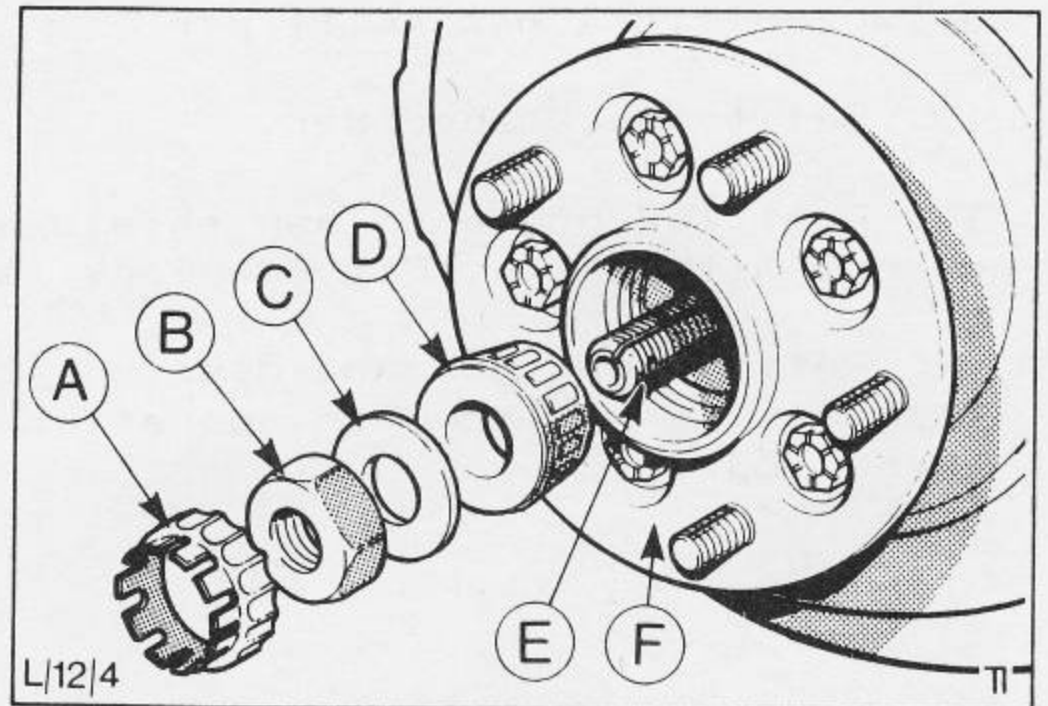

Fig. 17 Wheel bearing assembly.
4. Remove bearing dust cap, split pin, adjusting nut, washer and outer bearing. Slide disc and hub assembly clear of the spindle. Fig.17